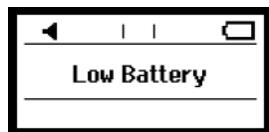

Figure 10
- When batteries are running low, the screen will read **Low Battery** and flash (Figure 10).